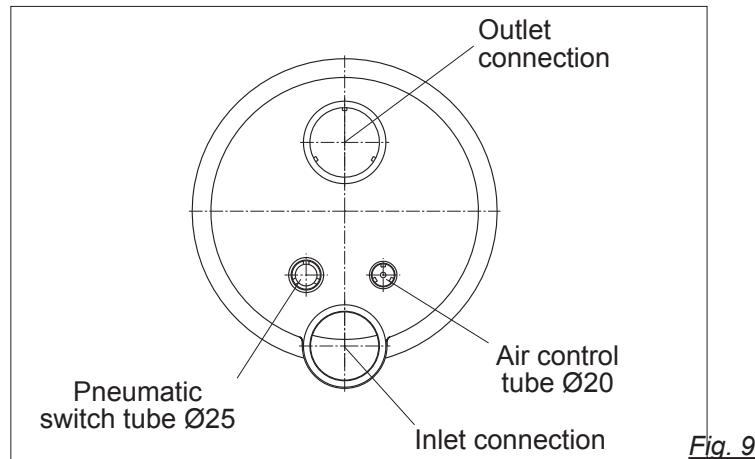

Fig. 9
- 2) Glue in the cable protection hose and the air line hose. (Fig. 9)
- 3) Place the nozzle housing (102.1) onto the jet housing (1).
- 4) Insert the pneumatic hoses and cables of the floodlight through the protective hose (14) and seal using the screwed cable gland (20).
- 5) Use clamp (8) to fasten the air hose to the factory-mounted air regulator (21).